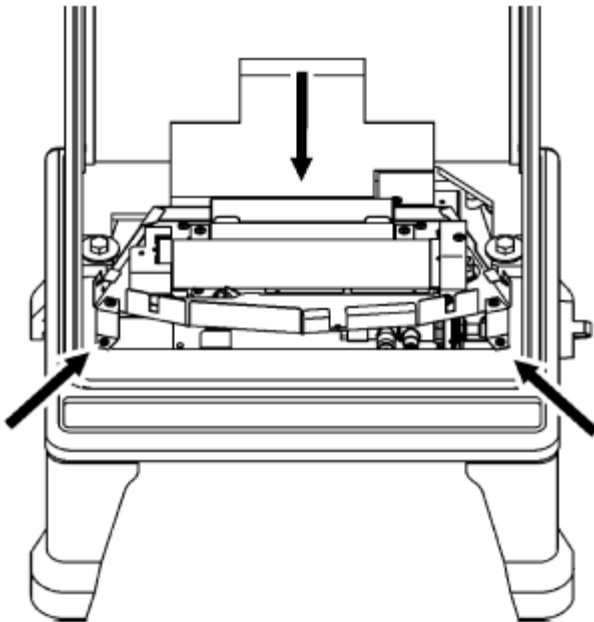

Figure 5.
9. Locate the burner assembly inside the stove body as in figure 5 (The outer front of the stove is not shown for clarity). The rear leg of the burner should sit on the rear of the casting. Secure using the three screws supplied The screw locations are shown ion figure 5).